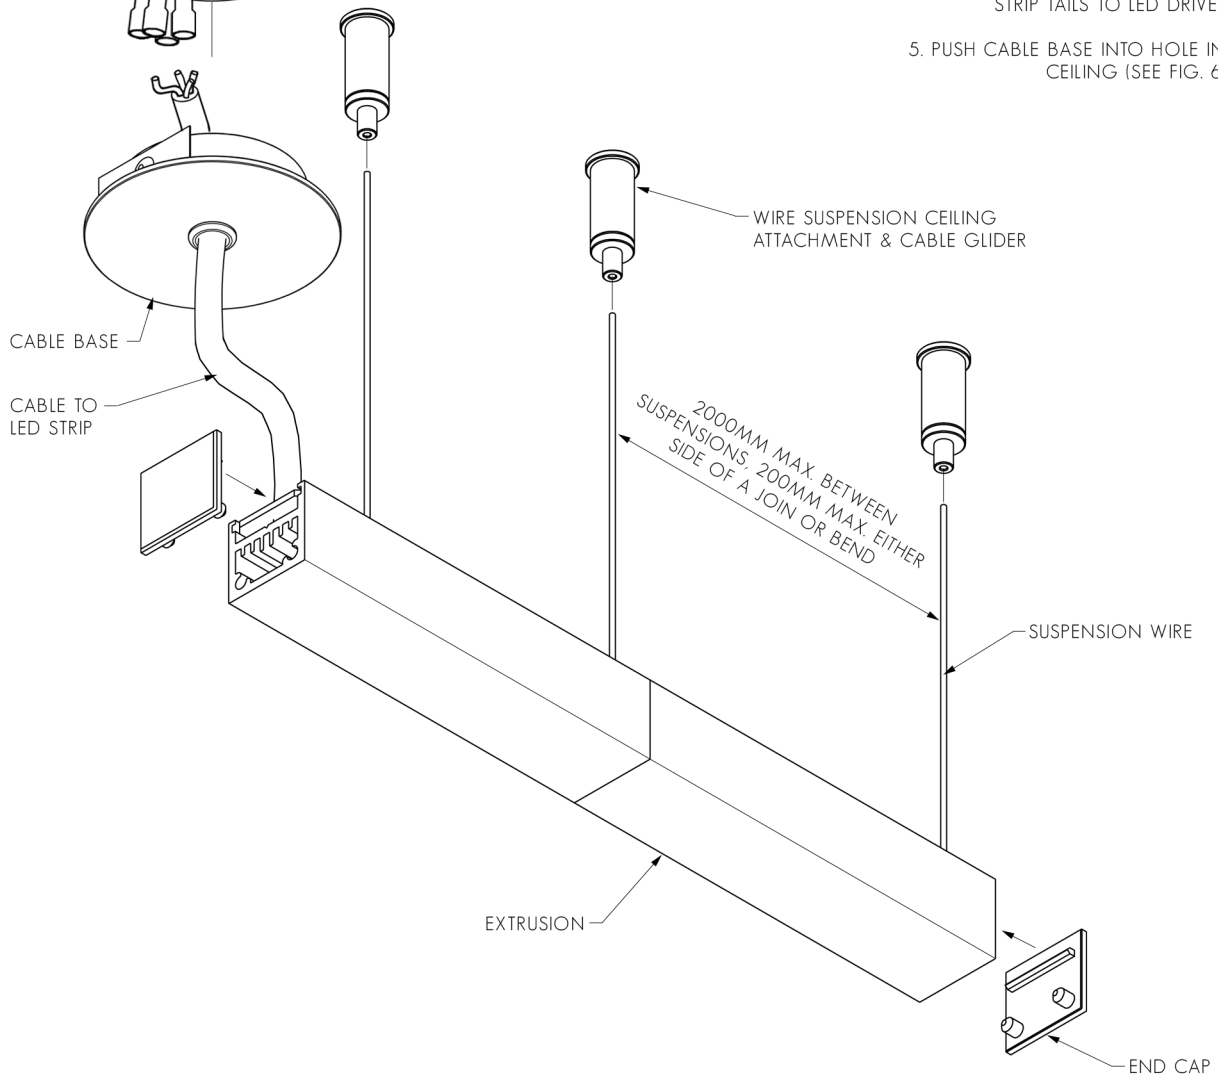

FIG. 5 - ADJUST SUSPENSION CABLE
1. FEED WIRE SUSPENSION CABLES IN TO CEILING ATTACHMENTS. PRESS NIPPLE INWARDS TO ADJUST CABLE LENGTH (SEE FIG. 5).
2. ONCE CORRECT SUSPENSION HEIGHT HAS BEEN DETERMINED, CUT OFF EXCESS SUSPENSION WIRE USING SIDE CUTTERS. (SEE FIG. 5).